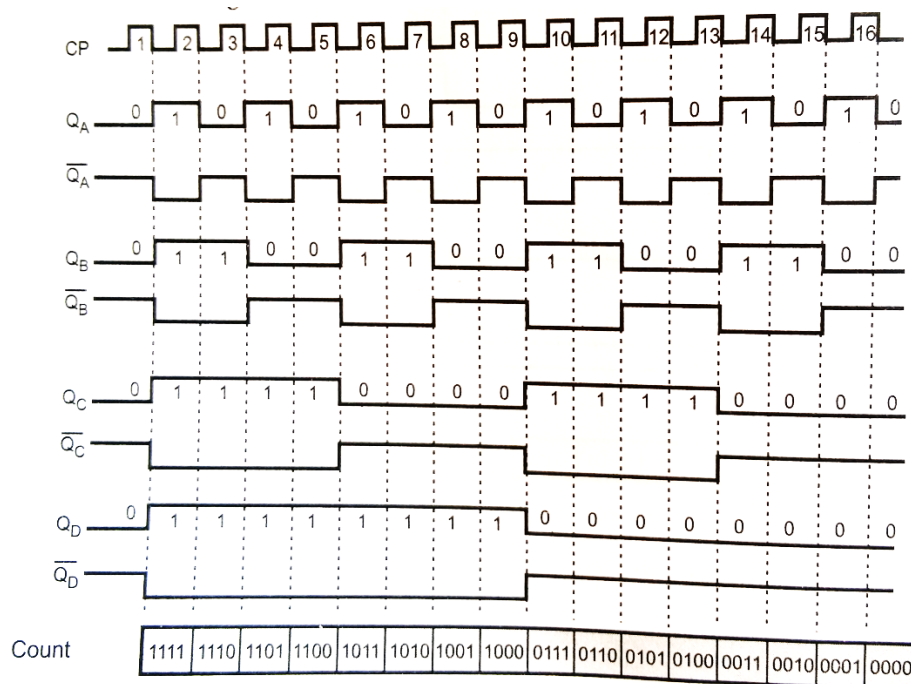

Figure 3.10: Timing diagram of the 4-bit asynchronous down counter.
- The figure 3.10 shows the timing diagram for 4-bit asynchronous down counter. It illustrates the changes in the state of the flip-flop outputs in response to the clock.